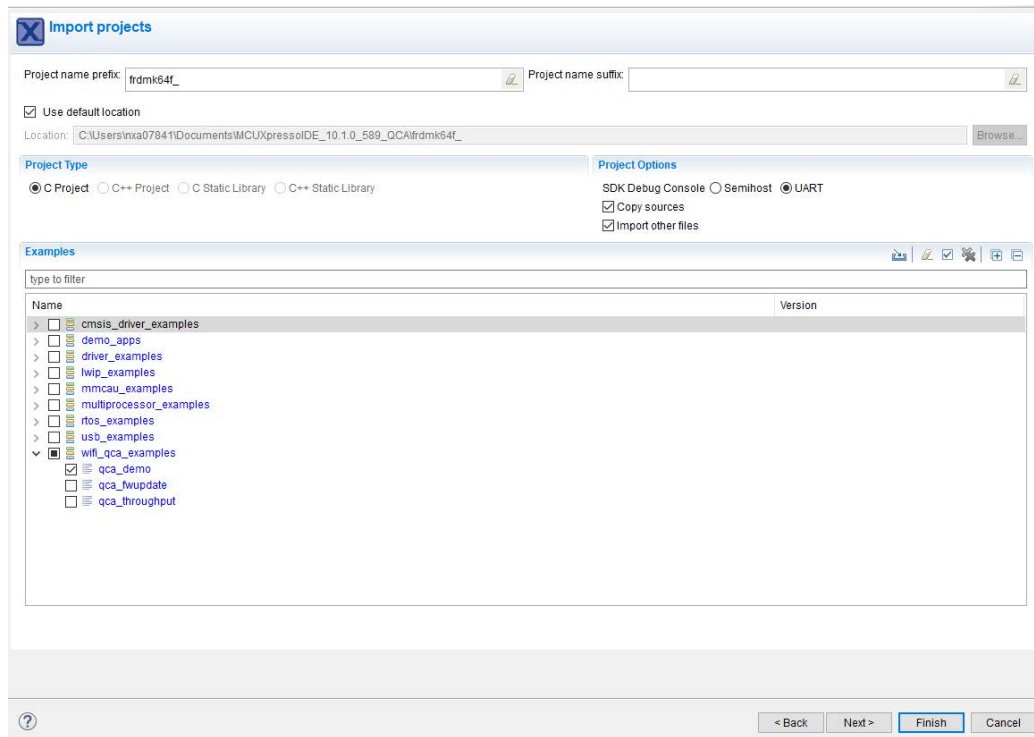

Figure 15. Selecting SDK example
4. Click **Next** and select the examples you want to open in MCUXpresso IDE, as shown in Figure 15.